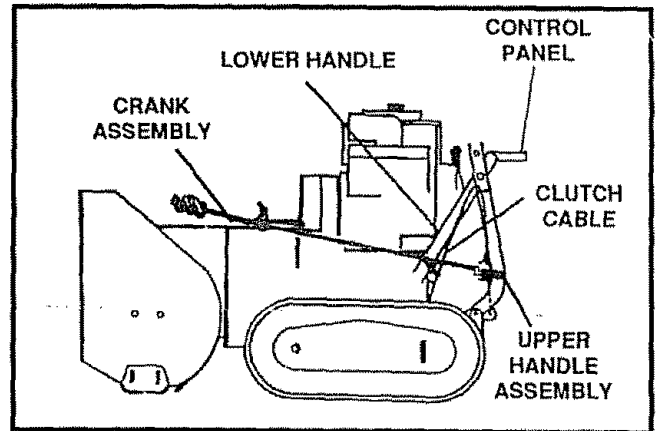
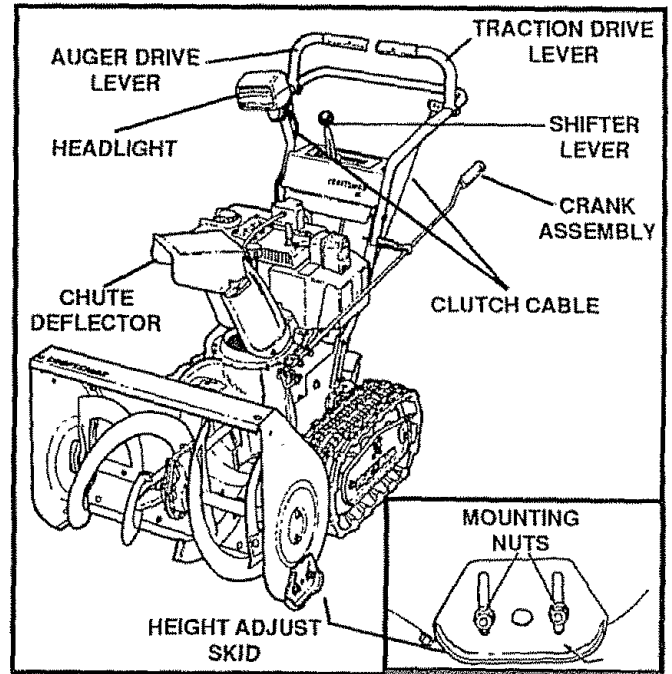

FIG. 1
FIG. 2
Figure 1 shows the snow thrower in the shipping position. Figure 2 shows the snow thrower completely assembled. Reference to the right and left hand side of the snow thrower is from the operator's position at the handle.
TO REMOVE SNOW THROWER FROM CARTON (See Fig 1)
For shipping, the height adjust skids are reversed. To use your snow thrower, you need to remove the height adjust skids and reinstall as shown in Fig. 2. Then adjust the height adjust skids for surface conditions as follows:
- Loosen the mounting nuts on the skids (See Fig. 2).
- Remove the pivot bolt (Fig. 7A), place headlight in correct position (as shown in Fig. 7B and in Fig. 2) and retighten nut.